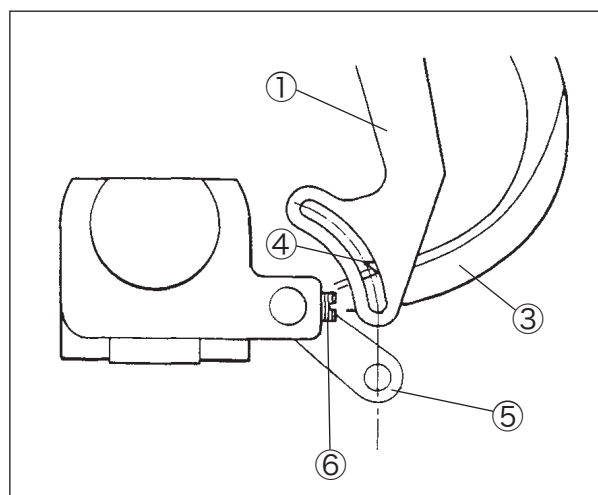

Fig. 6-12
- (1) Loosen the screw ⑥ of the top cover thread eyelet ⑤ . (Fig. 6-12)
- (3) Set the eye of the top cover thread eyelet ⑤ along the extending line from the slot of the top cover thread guide ① . (Fig. 6-12)
- (4) Tighten the screw ⑥ securely. (Fig. 6-12)